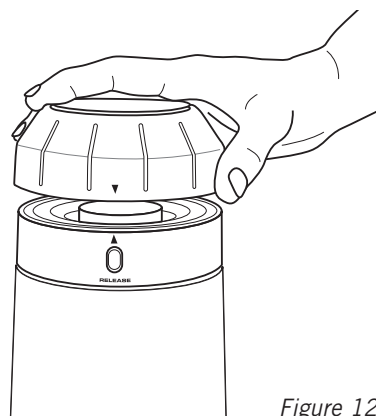

Figure 12
5. Lift the grind adjustment collar away from the motor base and clean with the brush, see figure 12.